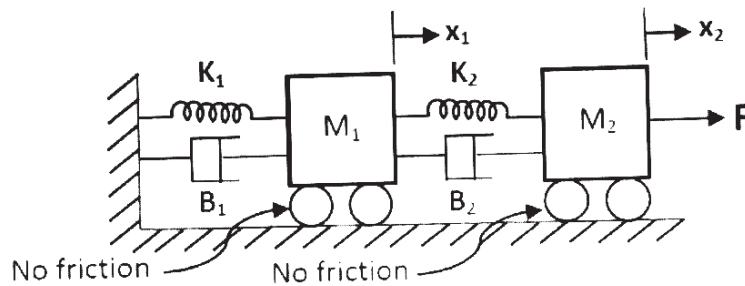

Fig. 3
- Q8) a) Represent the mechanical system shown in Fig. 3 by node representation method and hence write the node equations. [6]